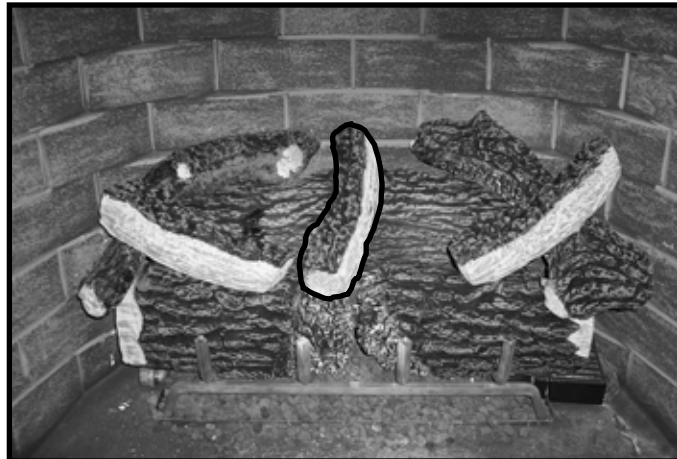

Figure 8.12 Place Top Log in Center- Carolina 36
- Place the top log on the indentations of the left front log and the back log as shown in Figure 8.12 for Carolina-36.